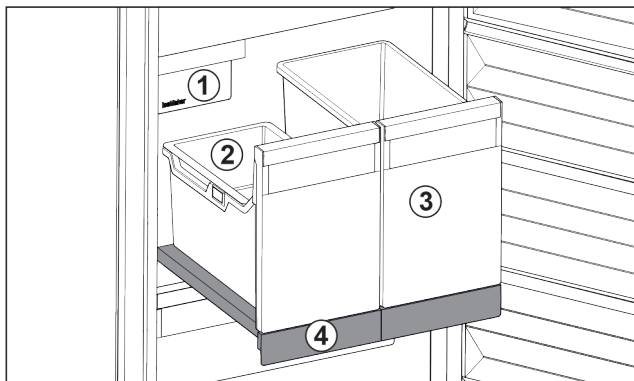

Fig. 122 Pull-out board with IceTower
There are two high (IceTower) containers on the pull-out board. Ice cubes from the IceMaker are collected and stored in the Fig. 122 (2) container. The container Fig. 122 (3) is suitable for storing tall foodstuffs or beverages such as pizzas or alcoholic drinks.